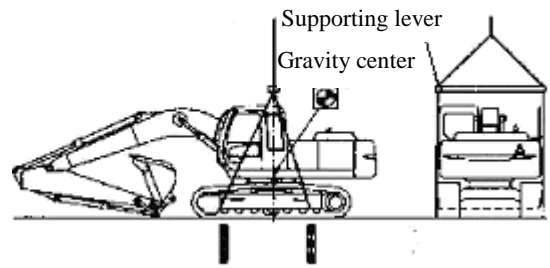

Fig. 3-7
- e) As shown in Fig.3-7, make the steel rope pass under the chassis frame on both sides, and attach it to the crane.